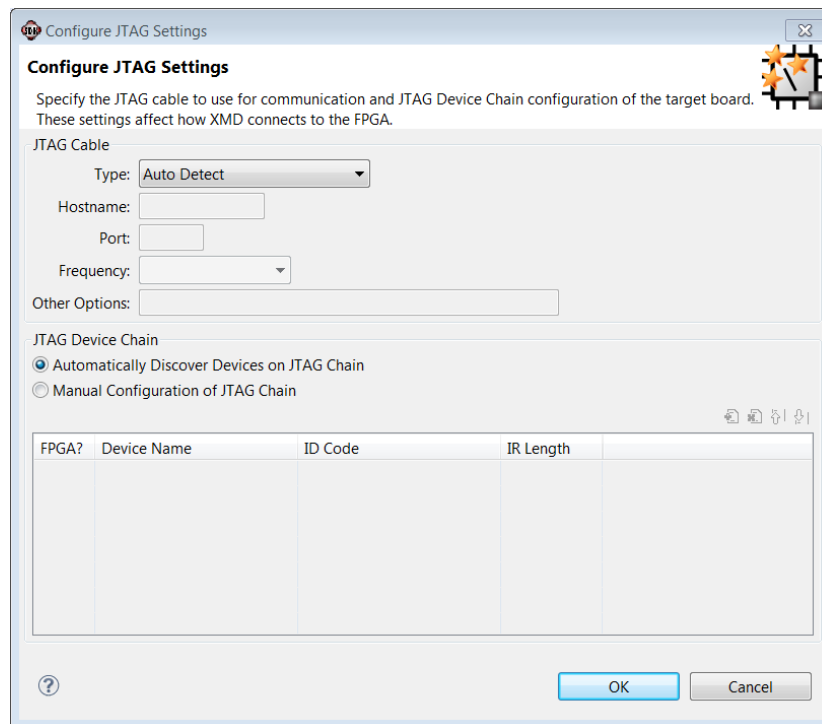

Figure 38: Configure JTAG Settings
2. In the Configure JTAG Settings dialog box, select the **Type** as **Auto Detect**, and click **OK** (FIGURE 38).